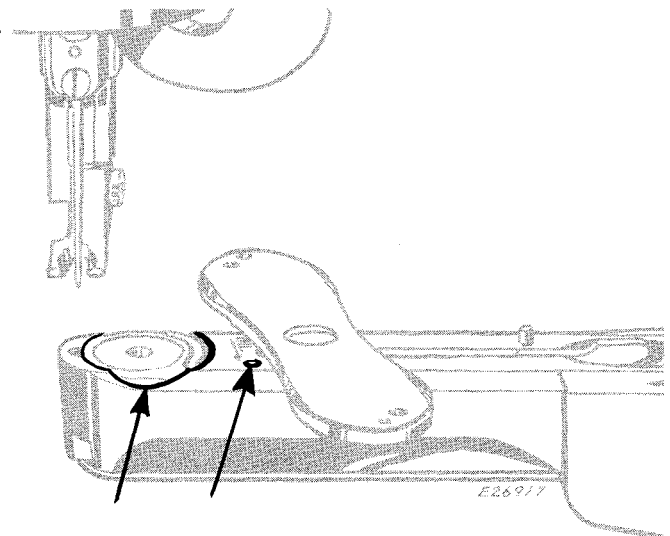
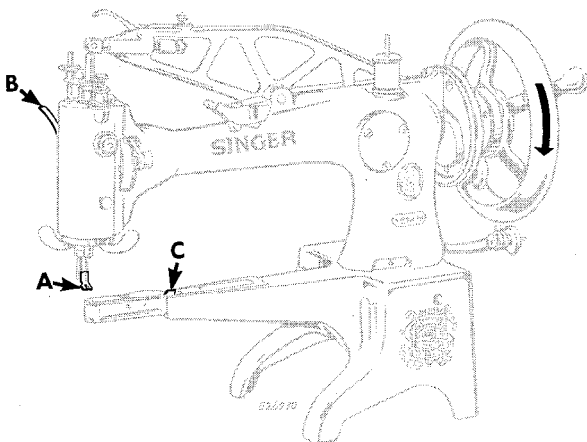
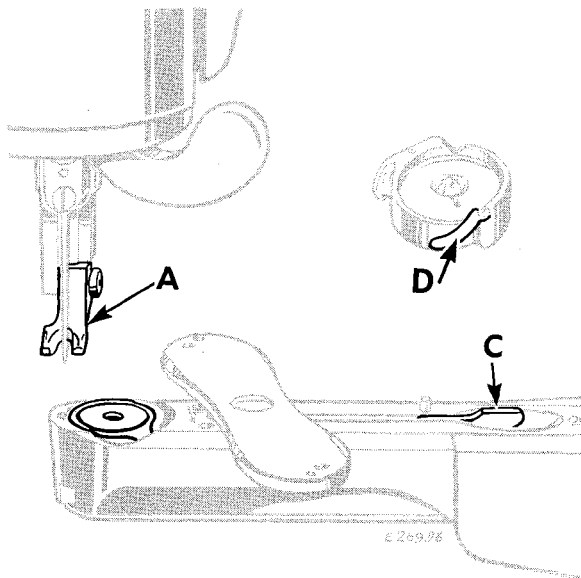

Fig. 4. Oiling Shuttle Race
Fig. 5. Operating Machine
Fig. 7. Taking out the Shuttle
To oil shuttle race, raise needle bar to its highest point and lift feeding foot A, Fig. 5 by moving lifter B upward.
Press down lever C, Fig. 5 and swing needle plate to position shown in Fig. 4.
Apply a drop of oil to the face of shuttle race and to the hole shown by arrow in Fig. 4.
1. Raise feeding foot **A**, **Fig. 5** by moving lifter **B** upward.
Raise needle bar to its highest point and lift feeding foot **A**, **Fig. 7** by moving lifter **B**, **Fig. 5** upward.
Press down lever **C**, **Fig. 7** and swing needle plate around as shown.
NOTE: For **29K72** machine, move bobbin retaining spring **D**, **Fig. 7** outward before taking out the bobbin.